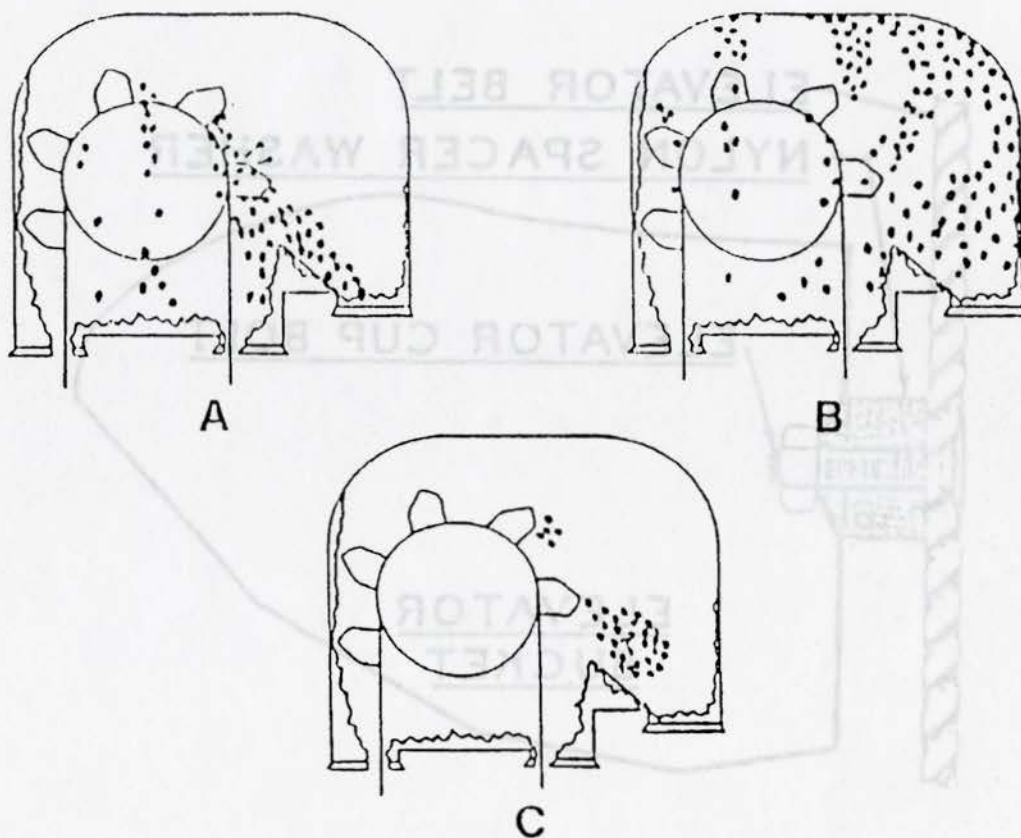

Figure 1. Centrifugal discharge bucket elevator. (A. Head pulley speed too slow; B. Head pulley speed too fast; C. Optimum head pulley speed.)
Bucket elevators are manufactured by numerous companies, but only those designed specifically for gently handling should be considered for seed plant use. With the correct head shaft speed, a bucket elevator cup will discharge the seeds directly into the throat of the elevator. In high speed elevators the seeds are actually thrown against the inside of the elevator head and down-legging of seeds occurs thereby imparting mechanical and germination damage. Figure 1 illustrates that a bucket elevator, properly designed, driven at correct speed, will make a clean discharge directly into the throat assuring no appreciable damage on vulnerable commodities with little or no back-legging or down-legging. A slight deviation such as five (5) revolutions per minute (RPM) above or below optimum speed causes the cups to spill or throw seeds.